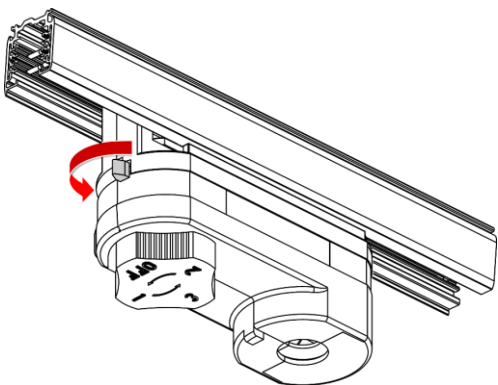

Fig. 13
- 04) Turn the **track lock (06)** counterclockwise to unlock the device (see Fig. 13).